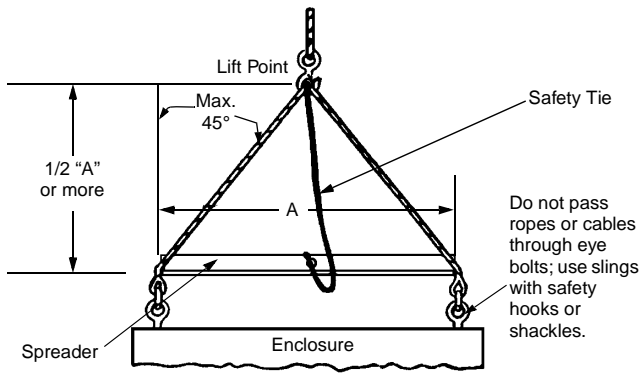

Figure 1: Lifting with Eye Bolts
When you must move equipment between elevations without a suitable platform elevator or forklift, overhead hoisting may be required. Lifting plates and eyebolts (Figure 1) or channels, angles, or bars with lift holes (Figure 2) may be provided as a permanent or removable part of the equipment. If they are not, cable, chain, or band slings (Figure 3) may be rigged around the equipment.
- Use spreaders (Figure 1) or spanner bars (Figure 3) to provide the vertical lift on eyebolts and lifting slings to avoid crushing or otherwise damaging the enclosure or its finish. Lifting bars, on long line-ups, may require additional spreaders to reduce the horizontal compressive load.